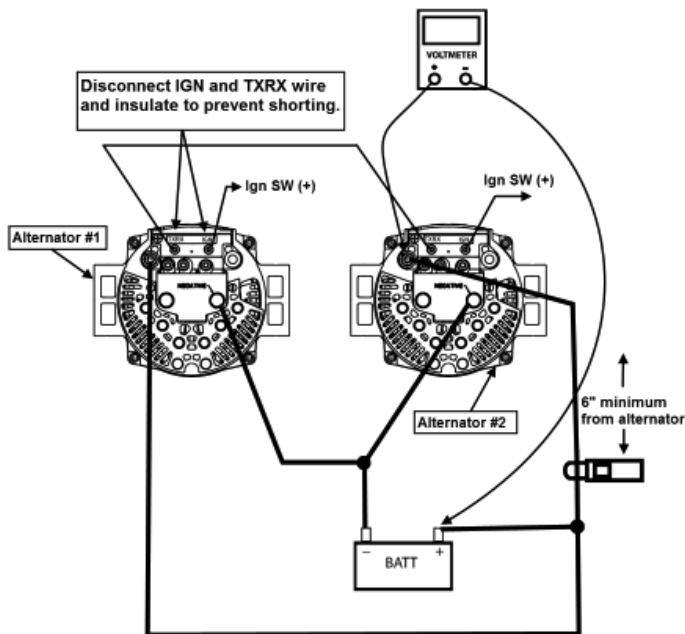

Fig 8
1) Connect voltmeter and ammeter per Fig 8.